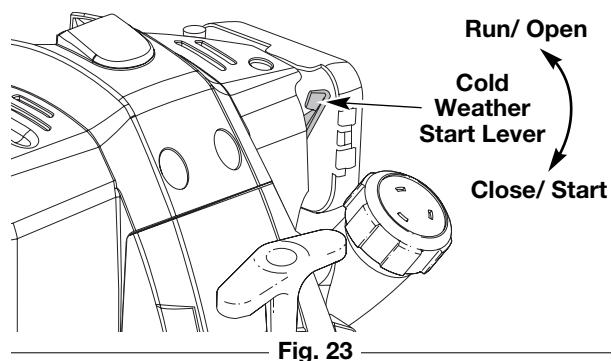

Fig. 23
- **IF COLD...** For cold weather conditions (below 40°F), flip the Cold Weather Start Lever (Fig. 23) down to the start/closed position and continue to step 3. DO NOT flip this lever down if the temperature is above 40°F.